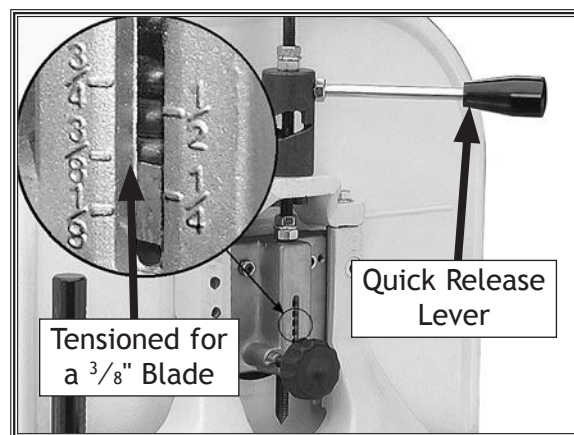

Figure 17. Example of tension control settings
3. Move the blade tension quick release lever all the way right (as viewed from the rear of the machine) to apply tension to the blade (see **Figure 17**).
4. Use the tension knob on top of the bandsaw to bring the upper edge of the indicator block to the appropriate blade tension scale mark for the blade width (see **Figure 17**).